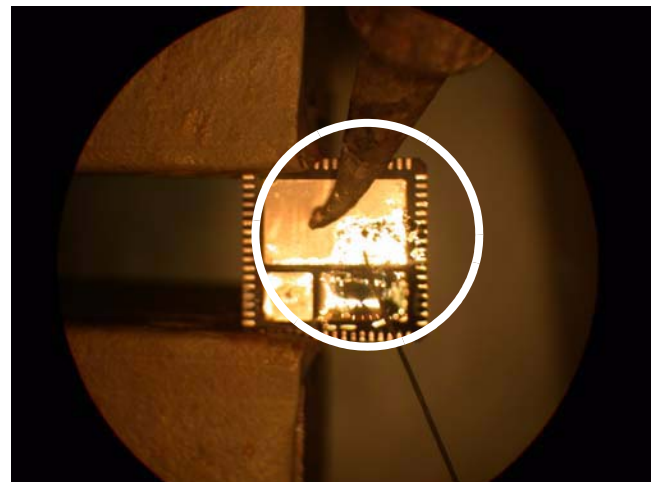
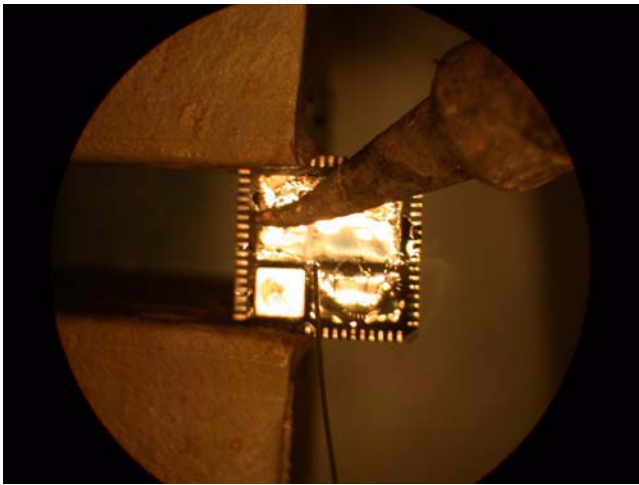

FIGURE 14. TINNING OF THERMAL LAND ON QFN (25% COMPLETE)
FIGURE 15. TINNING OF THERMAL LAND ON QFN (90% COMPLETE)
2. Tin the large center thermal land on the bottom of the replacement component using a hot iron with a tip temp of approximately +370° C. This is done by first tinning the iron tip with solder. Then liberally apply liquid flux to the component center thermal land and “dab” the tinned iron tip onto the large thermal land of the component in a “tapping” type motion (see Figure 14 and Figure 15).